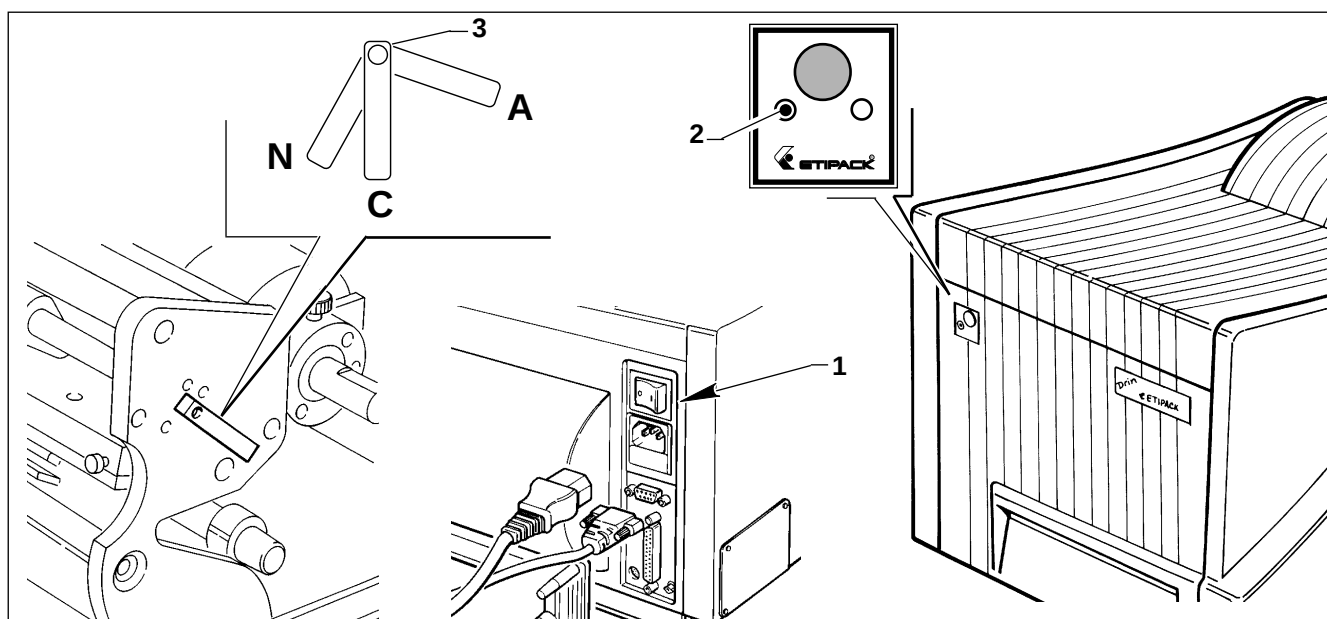

Fig. 8 FUNZIONAMENTO
- Spegner la stampante agendo sull'interruttore generale (1).
3.1 OPERATING CONDITIONS (Fig. 8/9)
- Switch on the printer by pressing the main switch (1) fitted into the printer rear side. The print push-button green light will light up (2) signaling that the system is alive. The operator can now start printing.